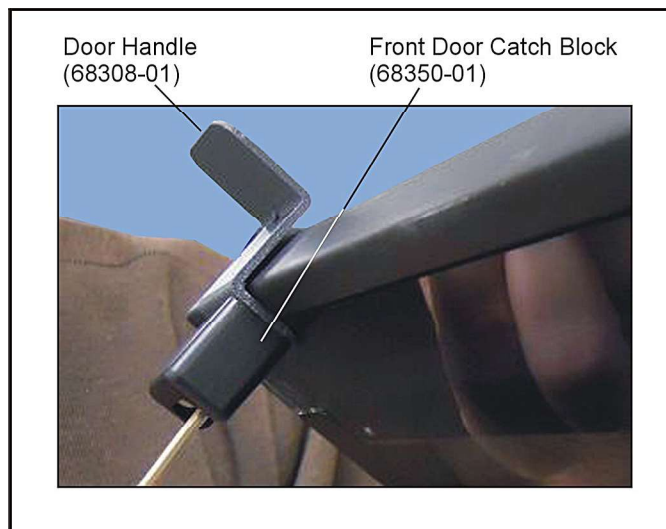

Figure 2-32: Door catch and handle lock assembly installation onto front cover
25. Install door catch and handle lock assembly onto left hand side of the door (Figure 2-32).